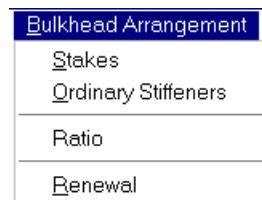

Figure 9 : BULKHEAD ARRANGEMENT MENU
A first click on the *Zoom* button (Figure 9) or on *Zoom* on the *Tools* menu (Figure 5) changes the cursor in and allows you to zoom in the section view by simple click on it.
A second click on the *Zoom* button (Figure 9) or on *Zoom* on the *Tools* menu (Figure 5) changes back the cursor in and allows you to work on your zoomed section view.
- click on the *No Zoom (1:1)* button (Figure 9) to bring back the view to the initial size.